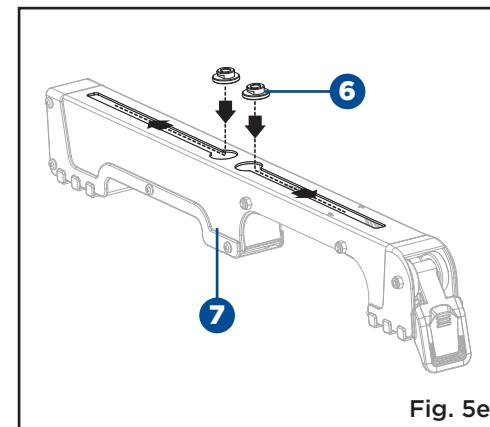

Fig. 5e
- Place two nuts (6) in the slots of one mounting bracket (7) and slide to the desired position. (Fig. 5e)